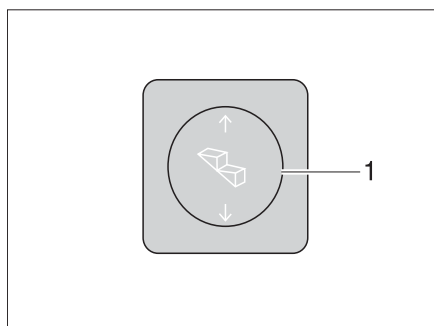

Fig. 7 Operating switch entrance step
- Press the rocker switch (Fig. 7,1) down until the entrance step has extended completely.
- Press the rocker switch (Fig. 7,1) up until the entrance step has retracted completely.